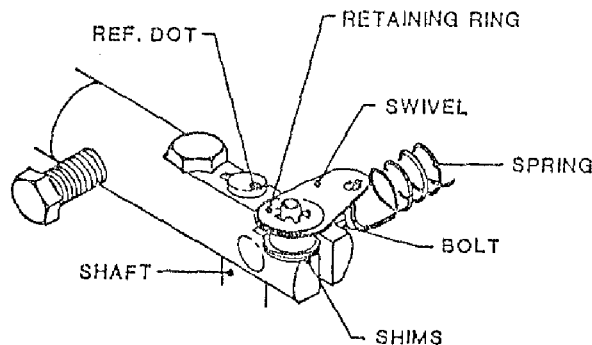

Figure 5-7. Take-up Arm and Supply Arm Assemblies
5.3.8 TAKE-UP ARM ASSEMBLY (Fig. 5-7)
5.3.9 SUPPLY ARM ASSEMBLY (Fig. 5-7)